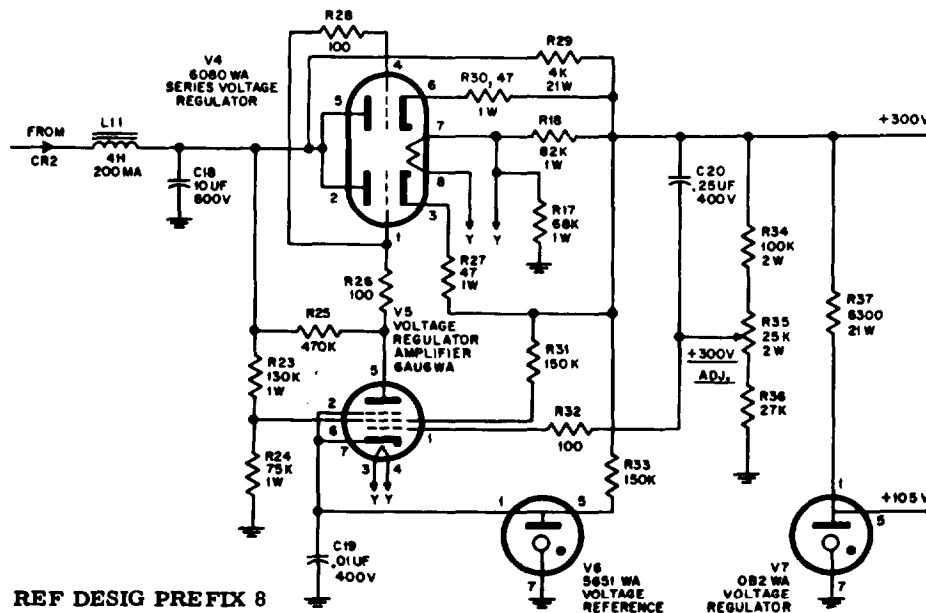

Figure 4-35. Coder Simulator Voltage Regulators, Simplified Schematic Diagram
2. POSITIVE 300 VOLT REGULATED PLATE SUPPLY. - The high voltage secondary of 8T1 at terminals 10 and 11 is rectified by full-wave bridge rectifier 8CR2 and filtered by inductor 8L11 and capacitor 8C16. Figure 4-35 is a schematic diagram showing the filter and regulator circuits. The filtered output is connected to series voltage regulator 8V4 and then to the +300 volt load. Regulator shunt resistor 8R29 is connected in parallel with 8V4 to carry a portion of the load current and reduce the plate dissipation of 8V4. Regulation of the +300 volt supply is accomplished by voltage regulator amplifier 8V5, voltage reference 8V6, and series voltage regulator 8V4. The +300 V ADJ potentiometer 8R35 sets the nominal level of the output voltage. The voltage drop across 8V4 is determined by the magnitude of the nominally +300 volt output. A regulating action is performed since a voltage rise causes an increased voltage drop across 8V4 and tends to restore the +300 volt output to its
3. POSITIVE 105 VOLT REGULATED PLATE SUPPLY. - Figure 4-35 shows that the same circuit is used to provide the +105 volt output and the +300 volt output. The +105 volts is obtained from the +300 volt output through resistor 8R37 and voltage regulator 8V7. Regulation to compensate for load variation is provided by 8V7.